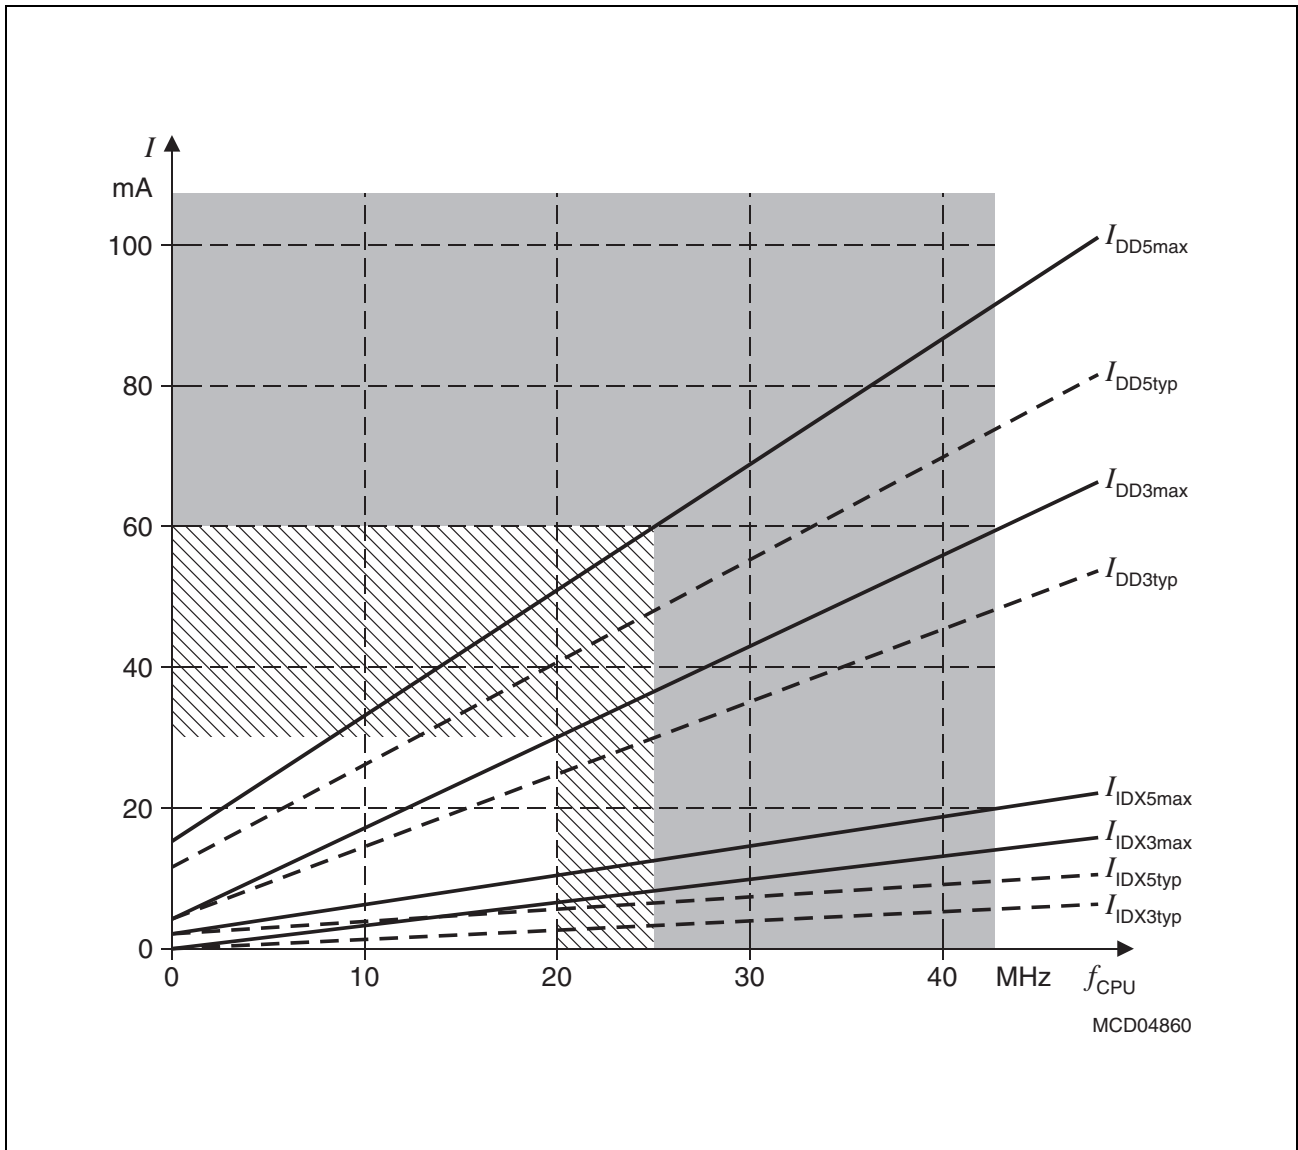

Figure 7 **Supply/Idle Current as a Function of Operating Frequency**
- ¹⁾ The supply current is a function of the operating frequency. This dependency is illustrated in Figure 7. These parameters are tested at V_{DDmax} and maximum CPU clock with all outputs disconnected and all inputs at V_{IL} or V_{IH} .